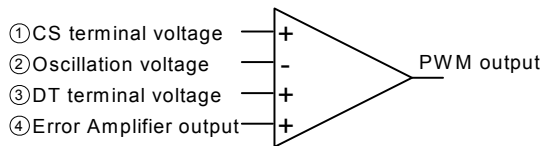
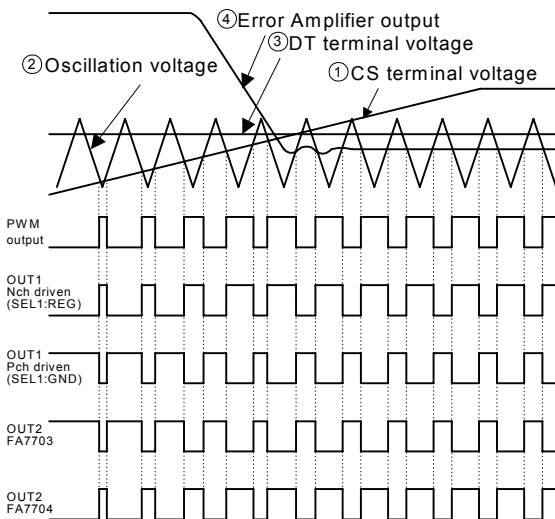
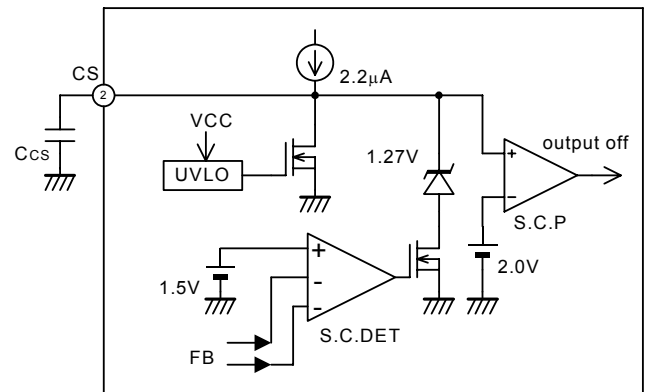

Fig.4
Fig.5
Fig.6
**(4) PWM comparator**
PWM comparator of FA7703/04 has 4 input terminals. (Fig. 4) The oscillator output ② is compared with the CS terminal voltage ①, the DT terminal voltage③, and the Error Amplifier output ④. Among those 3 inputs of ①, ③, and ④, the one with the lowest voltage is chosen and given priority. While the value of the chosen voltage is lower than the value of the waveform of oscillator output, PWM comparator output is set to LOW. Similarly, while the value of the chosen voltage is higher than the waveform of oscillator output, PWM comparator output is set to HIGH. (Fig. 5)
When FA7703/04 are turning ON, the soft start function starts according to the CS terminal voltage ①, then the output pulses begin to widen gradually. The maximum pulse width is adjusted by changing the DT terminal voltage. In steady operation, the pulse width is determined with the condition of the Error Amplifier output ④, and then the output voltage of DC-DC converter is stabilized. The operation flow chart of PWM comparator and OUT terminal is shown in Fig. 5. The output polarity of OUT1 terminal changes according to the condition of SEL1 terminal. The polarity of OUT 2 terminal is different between FA7703 and FA7704; accordingly, select the type for your desired circuit design.
As described in Fig. 6, a capacitor Ccs is connected to CS terminal. When the power supply of FA7703/04 starts and the undervoltage lockout protection circuit (UVLO) is cancelled, the capacitor Ccs is charged by the internal current source (2.2μA. typ.), and the voltage of CS terminal rises gradually. Since the voltage of CS terminal is connected to PWM comparator, the output pulses begin to widen gradually, and then the soft start function starts as a result. (Fig. 5)